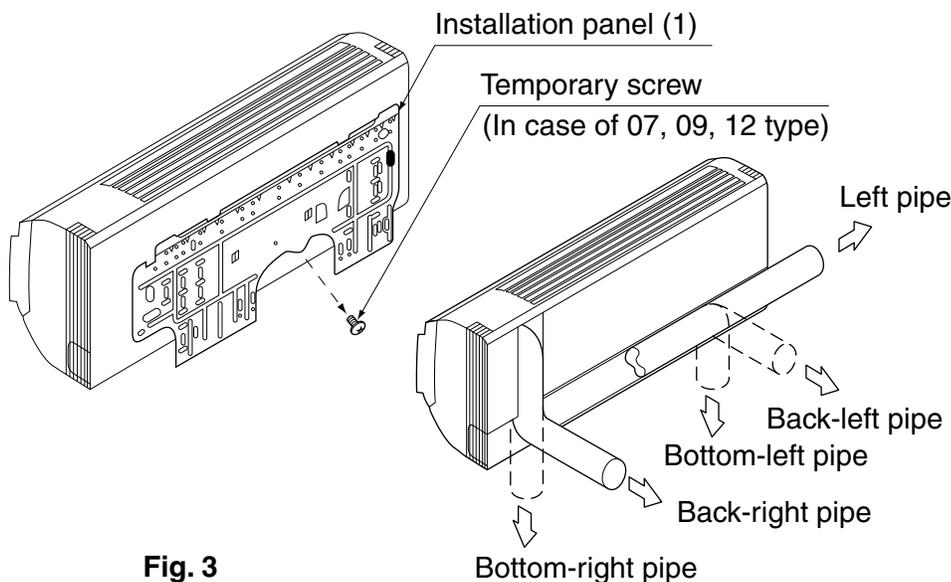

Fig. 3
(1) Open the piping through-hole.
- The refrigerant pipe and drain pipe can be passed out in one of 5 directions: left, bottom-left, back-left, bottom-right, and back-right. **(Refer to Fig. 3)**
- Using the paper pattern for installation (3), choose where to pass the piping out and open a through-hole ($\phi 3-1/8"$) in the wall.
(Refer to Fig. 3)